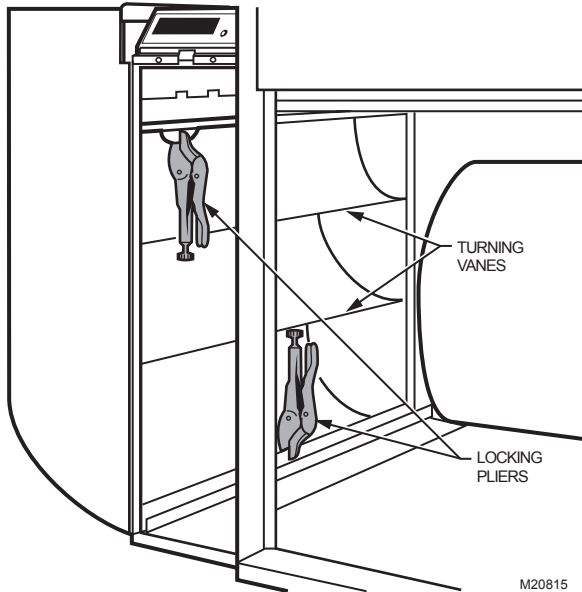

Fig. 7. Connect ductwork to air cleaner. (Note turning vanes. Locking pliers hold duct to air cleaner cabinet during installation.)
- Fasten the other side of the cabinet to the elbow using sheet metal screws, rivets, or slip joints as appropriate. If drilling holes, use locking pliers to help hold the unit in place during drilling. See Fig. 7.